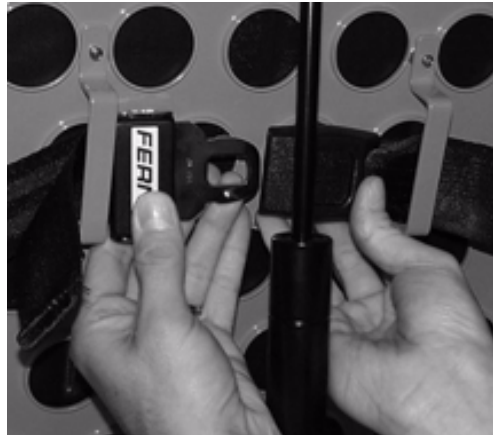

Figure 13 - Fastening the Pedi-Mate™ Buckle
4. Wrap the straps around the backrest and insert the ends of the straps through the brackets. Securely fasten the buckle (see Figure 13).